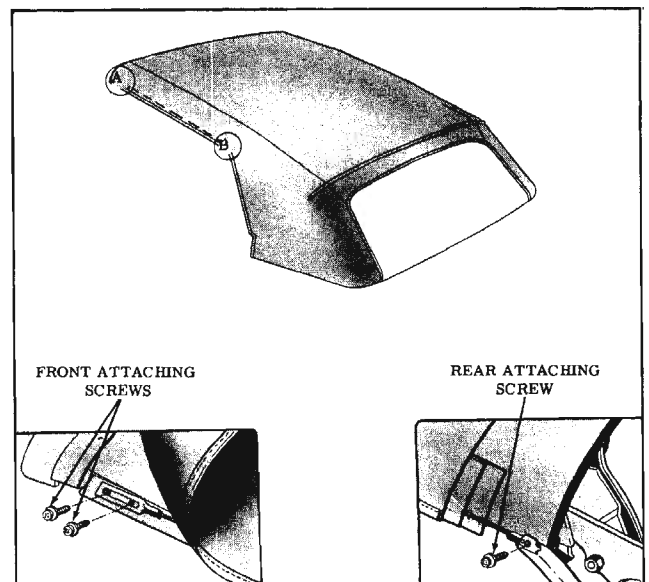

Fig. 16-111 Hold-Down Cable Attachment
5. At right and left side roof front and rear rails, remove hold-down cable front and rear attaching screws. (Views "A" and "B", Fig. 16-111)